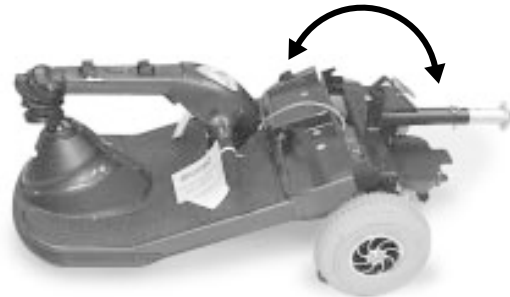

Figure 16. Frame Positioning
1. Push back on the seat post to pivot the scooter's rear section backwards until the rear section is standing vertically on its rear bumper. See figure 16.